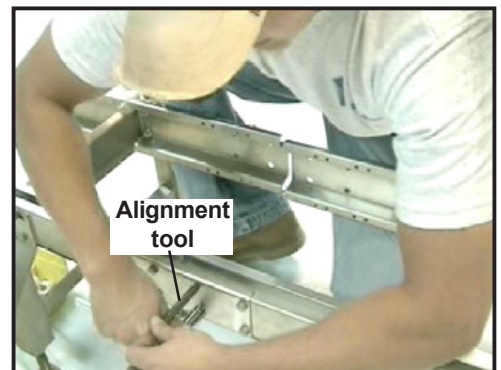
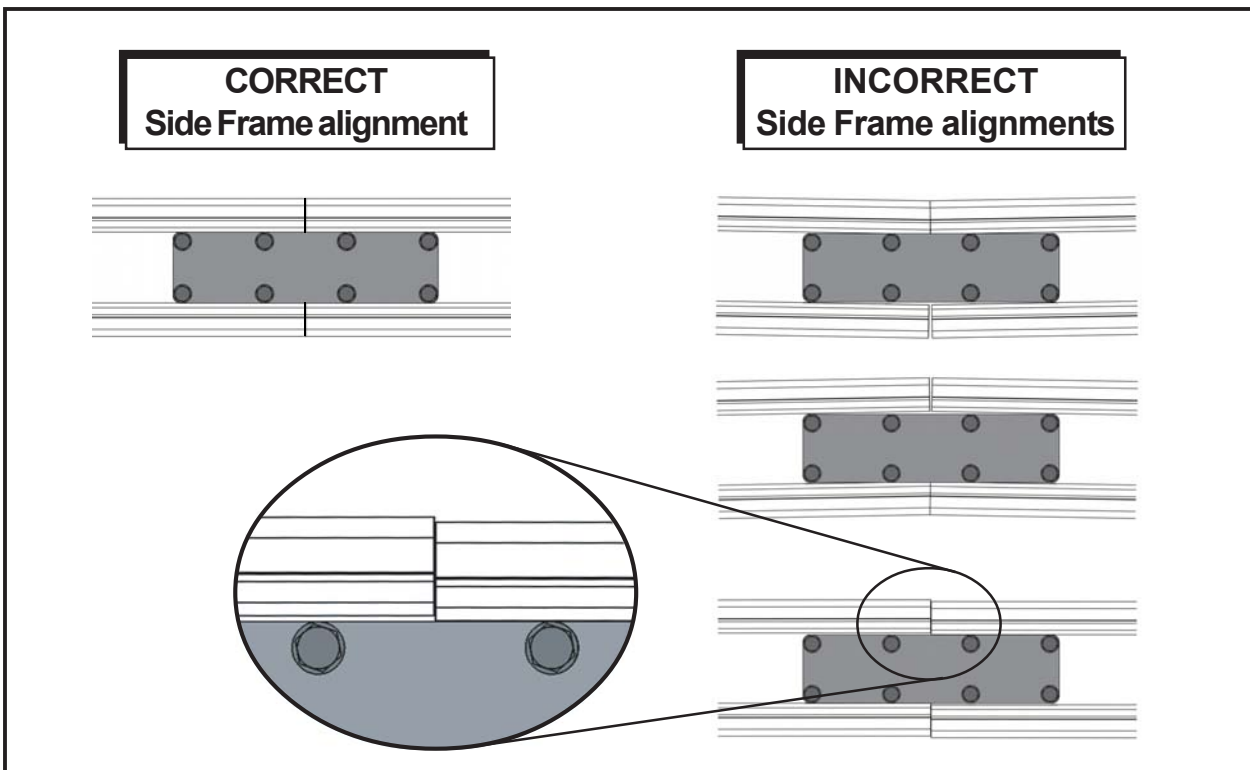

Figure 6: Use alignment tool (in open hole) to draw Bed Sections together
Figure 7: Side Frame misalignment illustrations
- Insert an alignment tool into the open hole, and draw the two frames together (Figure 6). Ensure that the frames are aligned (Figure 7) by feeling the connection with your fingers.
- Repeat assembly procedure for all remaining bed sections; inspect all joints for correct and accurate alignment (Figure 7).